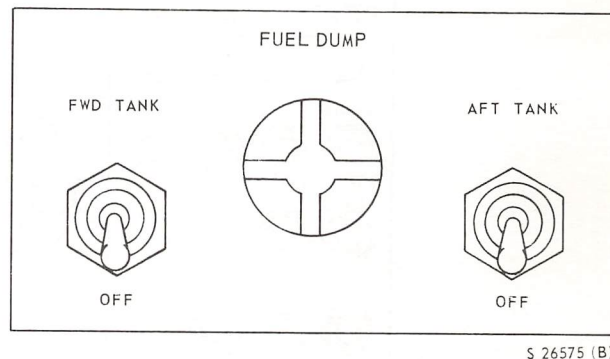

Figure 1-4. Fuel Dump Control Panel
**Fuel Dump Control Panel.** The fuel dump control panel (figure 1-4) is located on the instrument panel. The control panel, marked FUEL DUMP, contains two switches; one has marked positions FWD TANK and OFF and the other AFT TANK and OFF. Placing a respective switch in the FWD TANK or AFT TANK position opens the associated tank dump valve and activates the dump pump. The control circuits and dump valves operate on dc power from the essential bus and are protected by circuit breakers, marked FWD TANK and AFT TANK under the general heading FUEL DUMP, located on the overhead circuit breaker panel. The fuel dump pump operates on ac power from the No. 1 generator and is protected by circuit breakers, marked FUEL DUMP, located on the console ac circuit breaker panel.